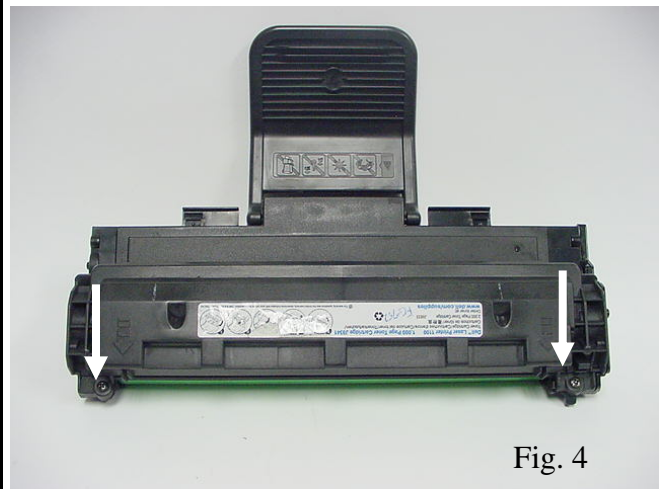

Fig. 4
4. Remove the two screws that secure the waste bin to the cartridge (Fig. 4).